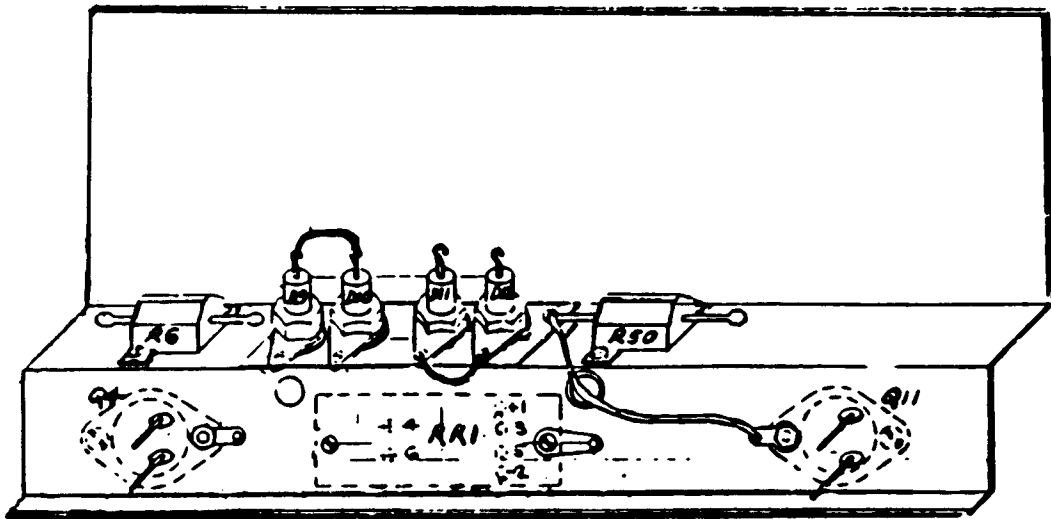

Figure 2. Location of Components not on PC Board
- Working at a test bench, remove the cover and open any two leads from the MOSFET Q4, in order to separate the primary and secondary of the transformer (T2). (See Figure 2, bottom view; Q4 is the left-hand transistor when the case is open and the connector is to the right.) Refer to internal schematics (see Figures 5A, 5B or 6A, 6B).